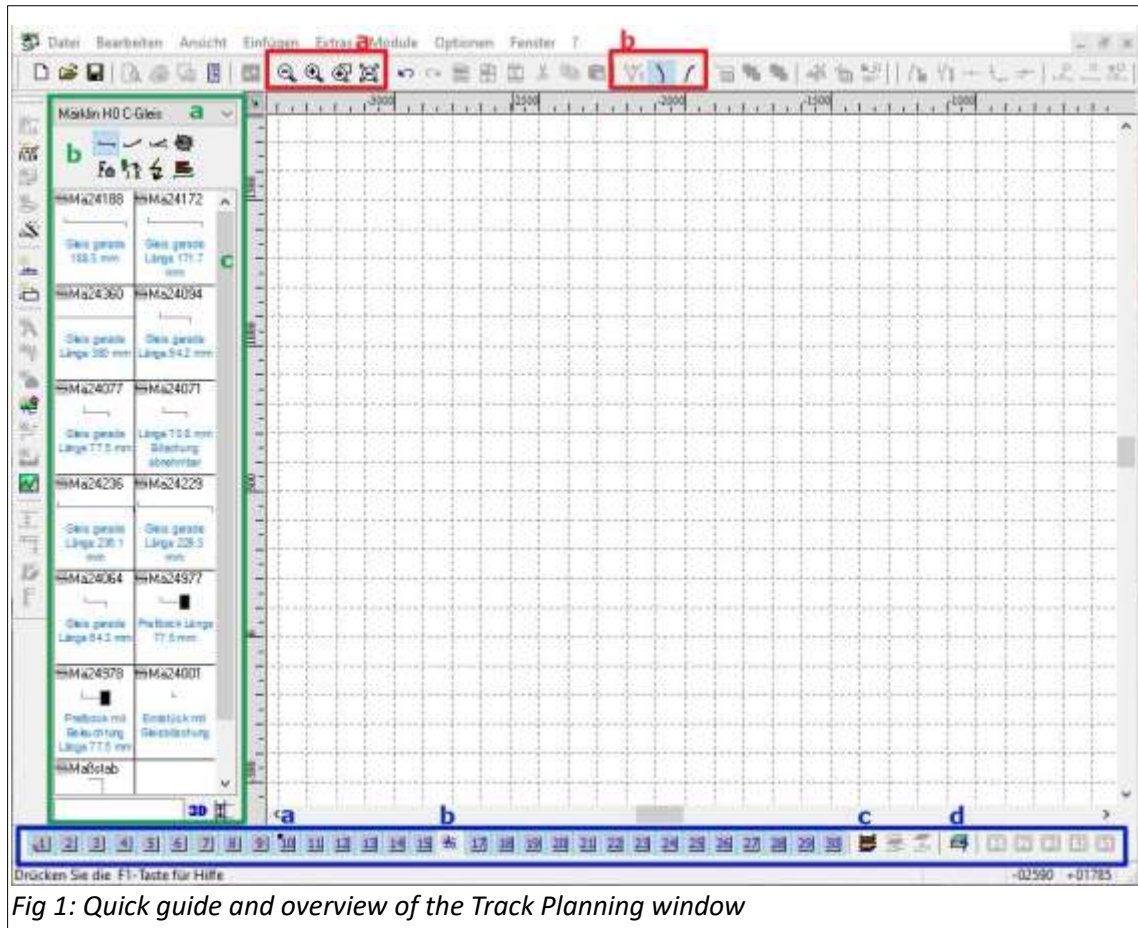

Fig 1: Quick guide and overview of the Track Planning window
**General Overview** Let's look at a quick overview of the planning window. I will point out the more important functions only, because of the limitations in language. (Fig. 1) The tips will be color coded by outline: